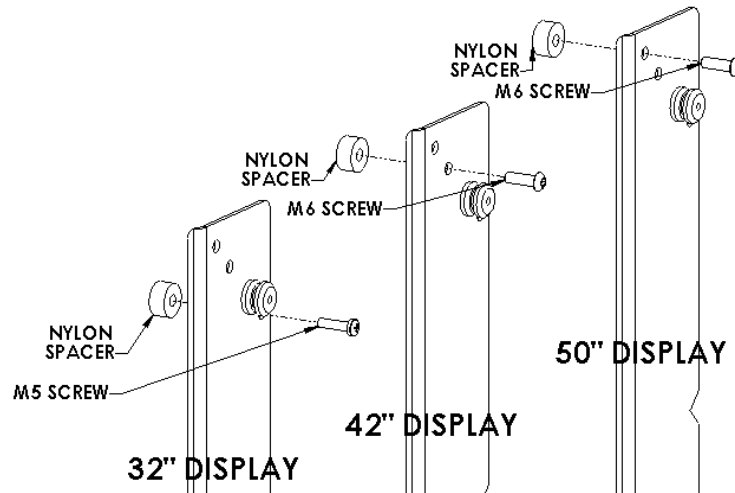

Figure 7. Bracket Hole Location
3. Place nylon spacers over the mounting holes on the back of the screen (see Figure 7).